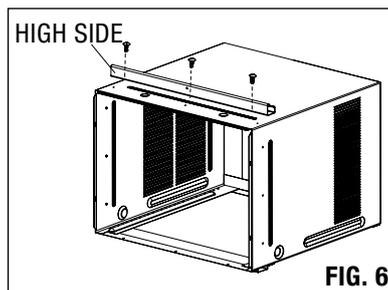

FIG. 6
- Secure the top rail to the unit with short screws (A) as shown in FIG. 6.